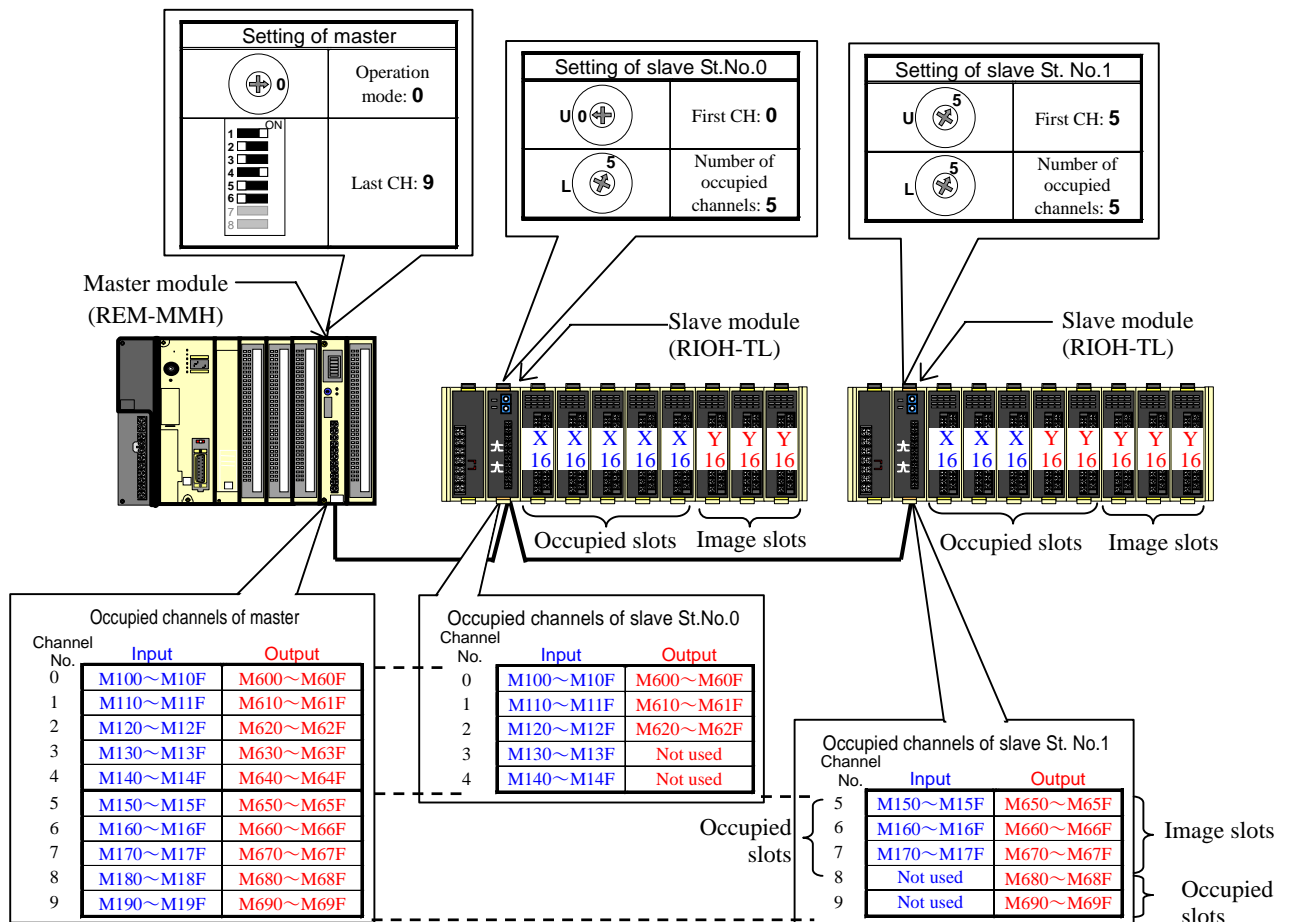
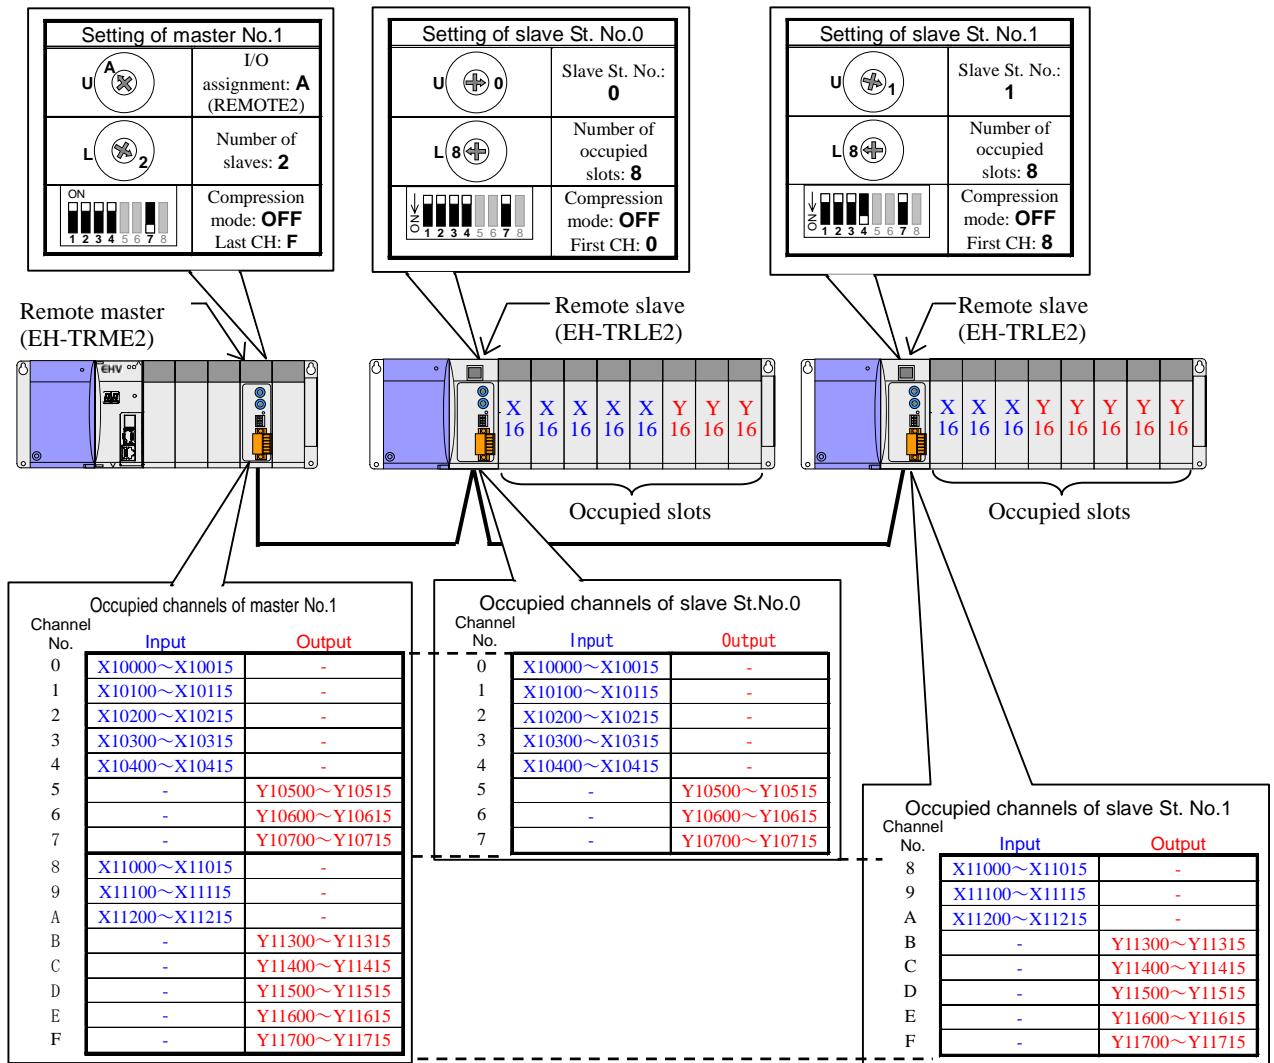

Figure 4.5.7 System configuration example of Remote I/O MINI (Mode 0)
Figure 4.5.9 System configuration example after the replacement to EH-150 (Mode0)
Figure 4.5.7 shows the system configuration example of Remote I/O MINI with mode0 for H-300/700/2000/302/702/1002/2002/4010.
Figure 4.5.9 shows replaced system configuration example with compact remote2.
Figure 4.5.9 is an example of replacing all of master and slave modules with the EH-150 series. It is also possible to leave all or partially slave modules like the H-200 series in order to postpone the wiring work of slaves. In this case, please set the same value of first channel number and number of occupied channels with Figure 4.5.7, and please turn off high-speed refresh mode (HS) of a front DIP switch of the master module and the slave modules, and turn on communication mode (MODE) of a front DIP switch of them. .
(Assignment of Figure 4.5.7 configuration example by control editor)